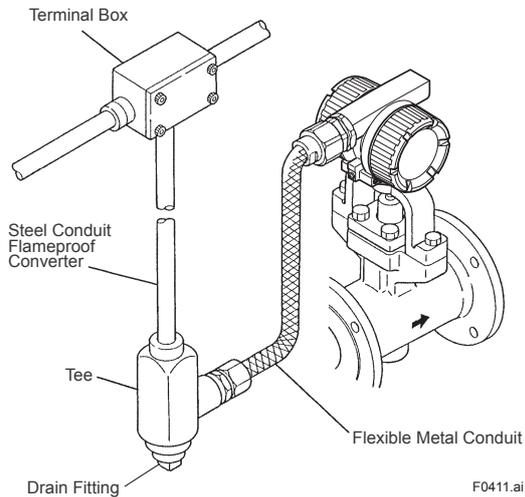
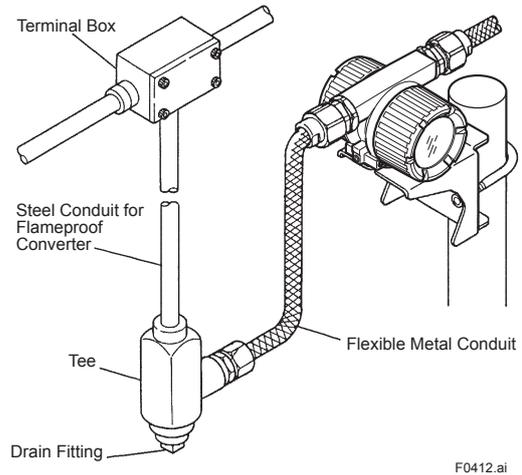

Figure 4.10 Example of Wiring (Integral Type and Remote Type Detector (DY-N))
Figure 4.11 Example of Wiring (DYA Remote Type Converter)
- (3) It recommends using a flexible metal conduit and a duct for waterproofing or external protection of an electric wire. Read Figure 4.10 and Figure 4.11.
- (4) The flameproof packing adapter (option code: /G11 or /G12) should be used for the external wiring of TIIS Flameproof. Read "INSTALLATION AND OPERATING PRECAUTIONS FOR TIIS FLAMEPROOF EQUIPMENT."